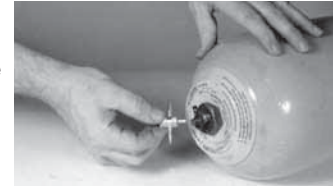

FIGURE 12
4. **Figure 12.** With port assembly firmly in place, install valve core into the bladder stem. Slowly pressurize the bladder, using dry nitrogen with sufficient pressure (approximately 40-50 PSI) to hold poppet assembly in place so both hands are free to continue with assembly.